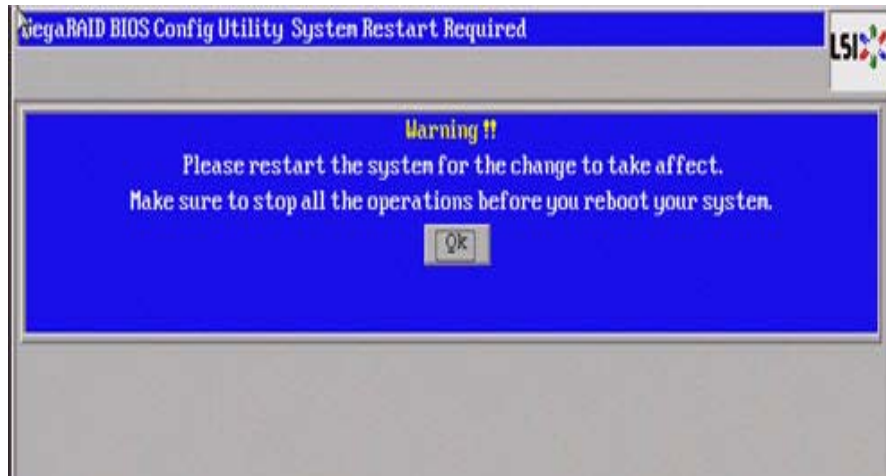

Figure 82: System Restart Request Dialog
4. Click **OK**. The system asks you for a restart. The restart message appears as shown in Figure 82.
The system restart message appears, as shown in Figure 82.